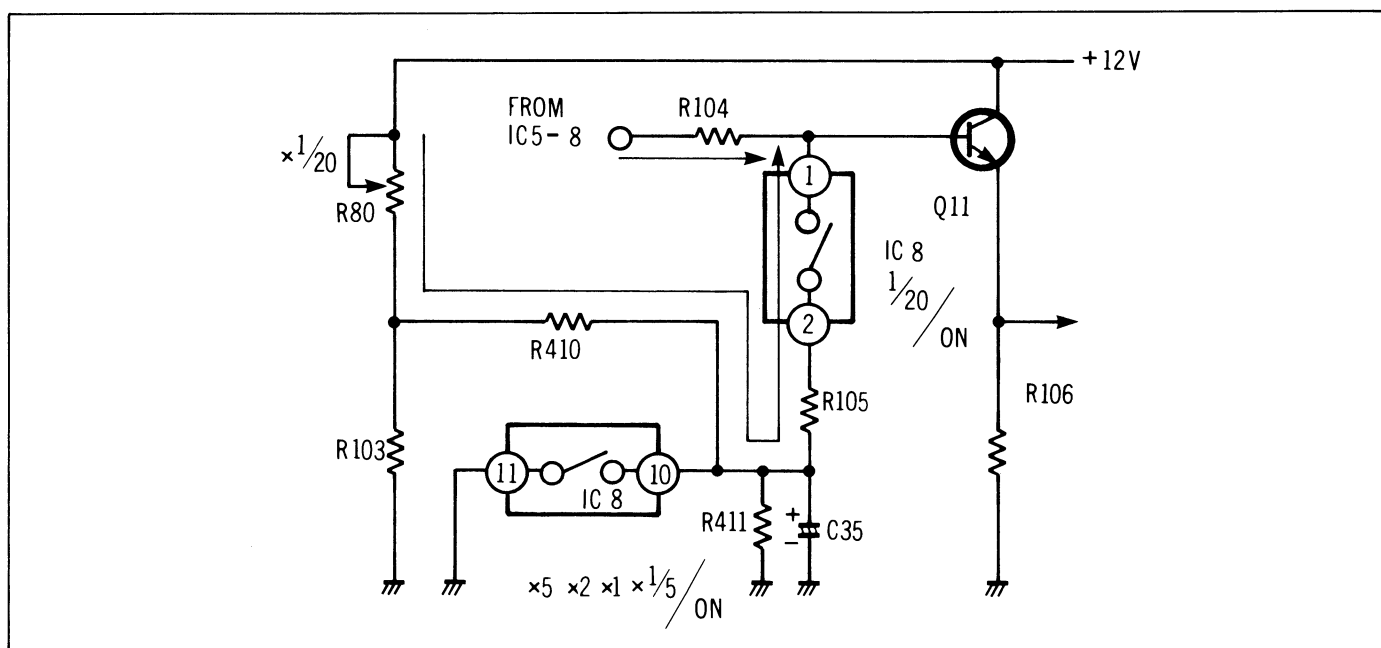

Figure 2-155
Since much lower drive voltages are required for the 1/5 and 1/20 mode, the switch IC8-(3), (4) is closed only during the X5, X2 and Normal mode. In X1/5 and X1/20 mode, the voltage at the emitter of Q11 is divided by R109/R110. In X5, X2 and normal mode, the voltage divided by R107 and R109/R110. (See Fig. 2-155)